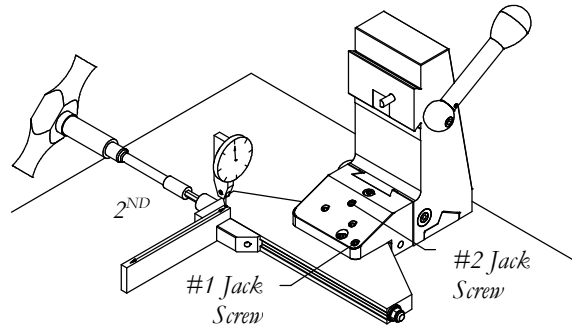

Figure 5
STEP 16. (A). Place the dial indicator ball on the work piece next to the vise bed as shown in Fig. 5. **(B).** Zero the indicator. **(C).** Move the indicator on the work piece to 1 and 1/2 inches out from the vise bed. **(D).** Check the dial reading. **(E).** Adjust the #2 jackscrew so the indicator comes back to zero and continues on past to the negative amount as the first reading. In other words, adjust the #2 jackscrew two times the indicator reading in the reverse direction. The second-axis should be true.